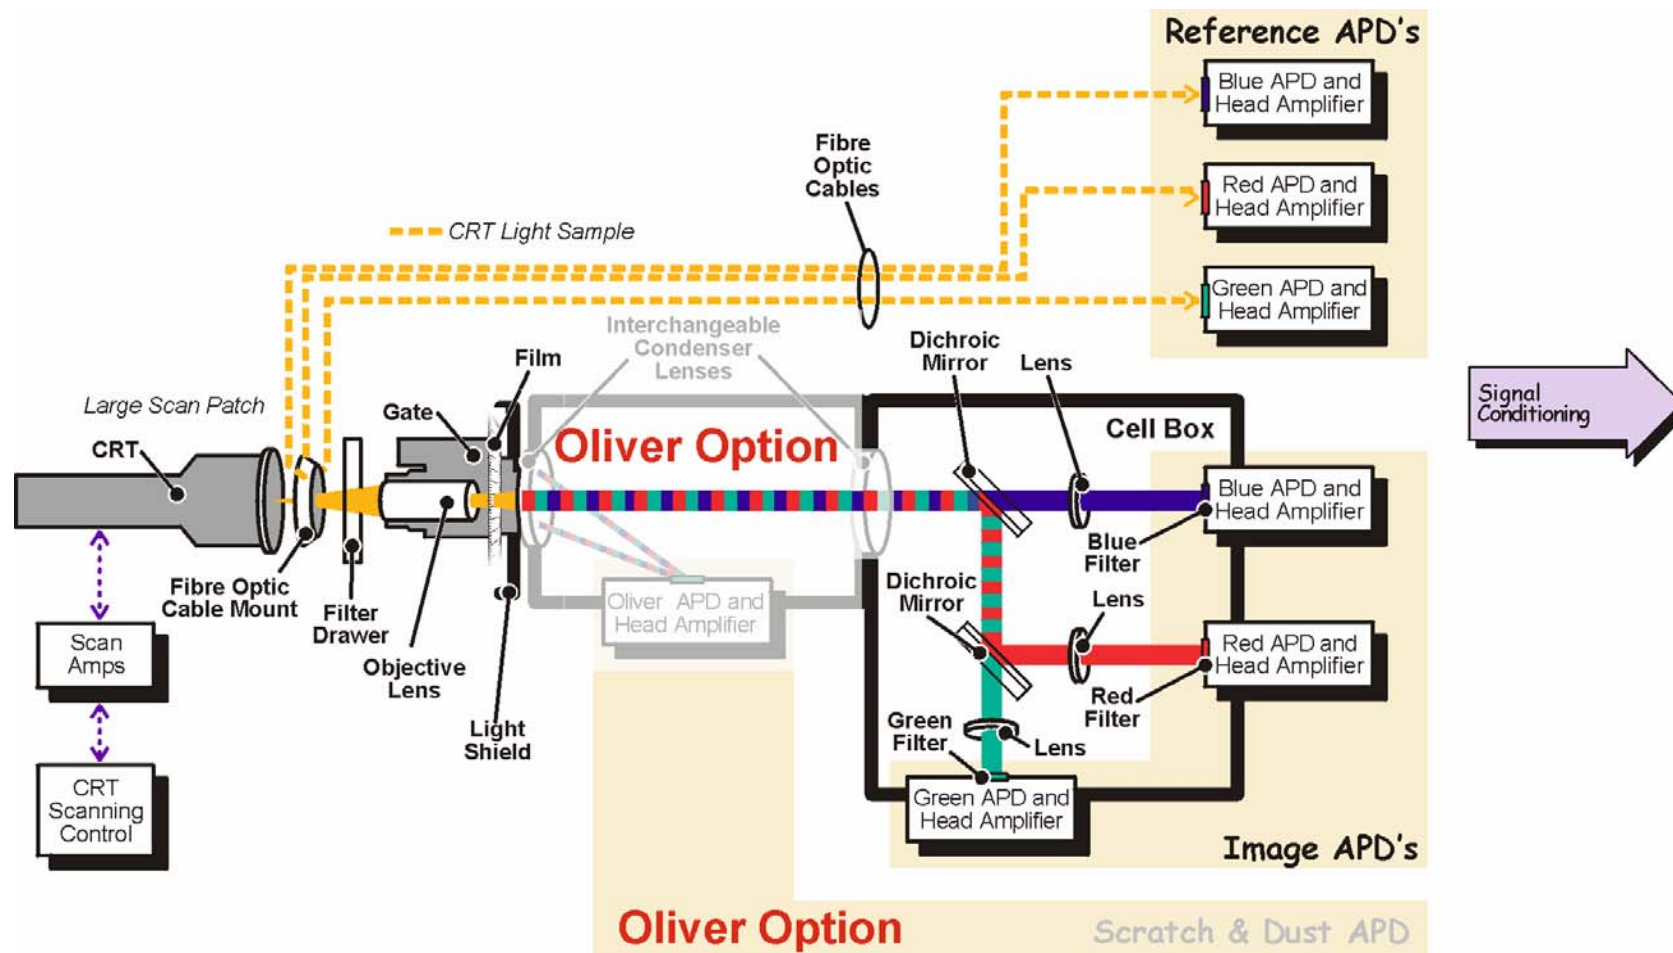

Figure 3 - Film Scanning System Block Diagram
Film Scanning System Block Diagram	Figure 3
The Film Scanning System scans the moving film as it passes through the vision gate. The modulated light produced by the different film image densities is then separated into its red, green and blue constituent colours. The light is then converted into electrical signals by (A)valanche (P)hoto (D)iodes. The system consists of a digitally scanned high quality thick faceplate CRT and a simple optical arrangement with colour splitters and filters as shown in Figure 3. Using this system image resolution is only limited by the optical path and the CRT spot size.